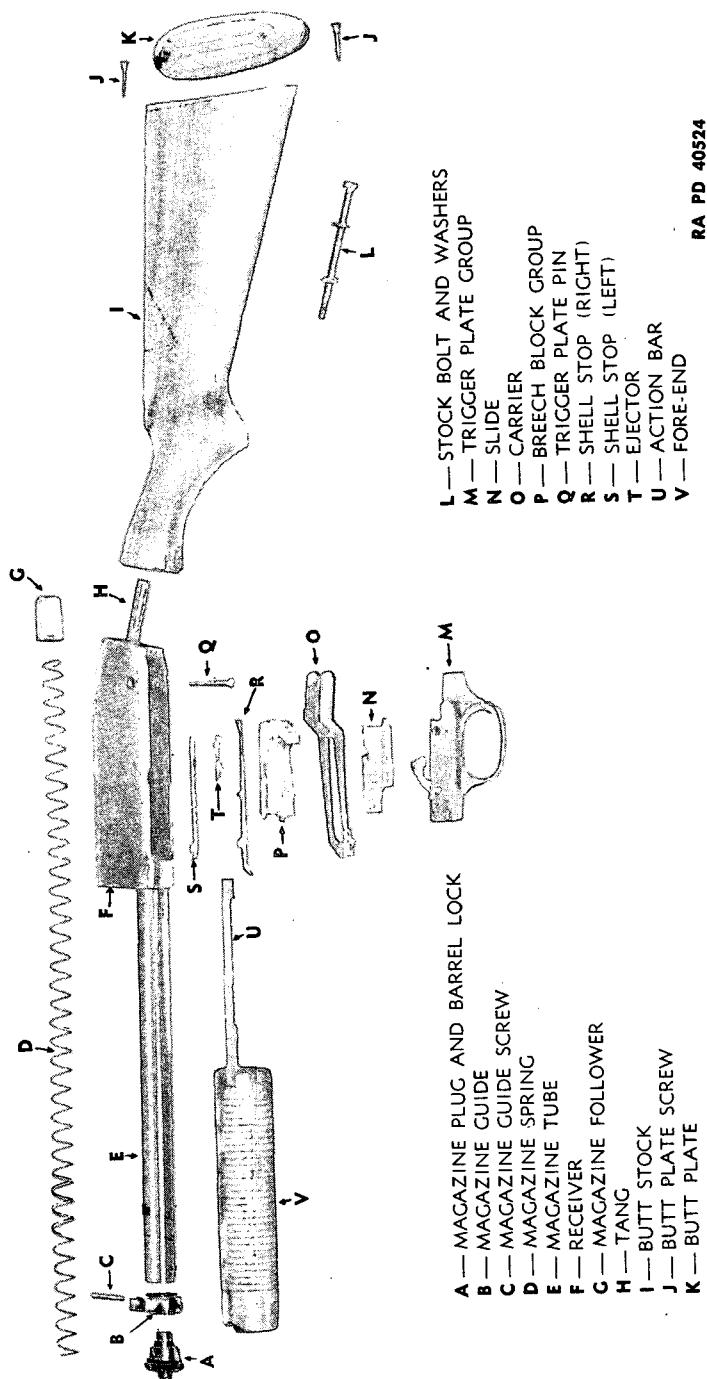

Figure 86—Disassembled View—(Without Barrel)—Riot Type—Remington Shotgun M31
(3) The sporting-type gun is similar to the skeet-type gun but is furnished with a 30-inch barrel, bored full choke, and is without bayonet attachment or sling.
d. General Description (figs. 86, 93 and 94).
48. REMOVAL OF GROUPS (figs. 86, 93 and 94).